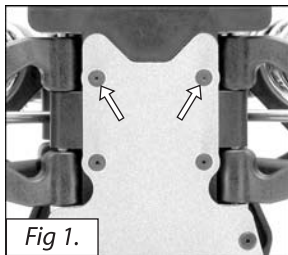

Fig 1.
- Remove the two screws in the bottom at the extreme end of the chassis (fig1)